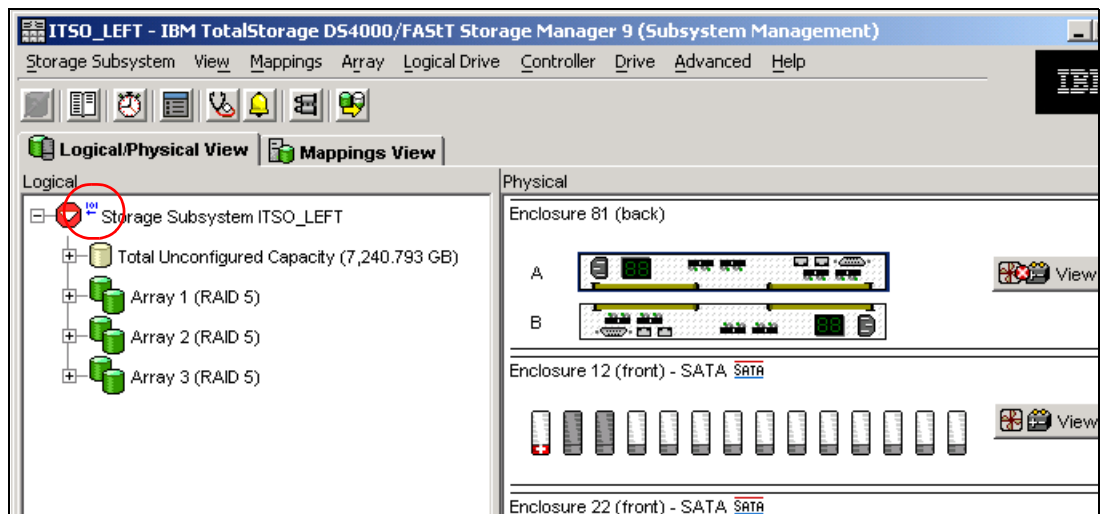

Figure 3-47 Subsystem Management window - Firmware ready for activation
4. After clicking **Close**, you are back in the Subsystem Management window. Because this is a staged firmware upgrade, the new firmware is now ready for activation. This is indicated by an icon (blue 101) next to the storage subsystem name (as shown in Figure 3-47).